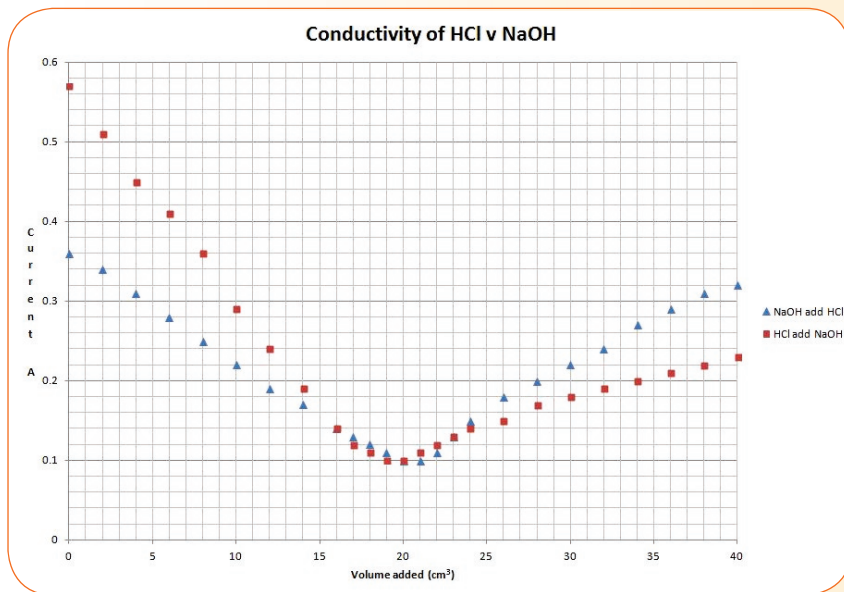

Figure 4 - Graph of conductivity in a reaction between a strong acid and a strong base.
- 5) Add the second solution a bit at a time, recording the current after each addition. You can either use a burette or a graduated pipette. The graph (Figure 4) was obtained using a Pasteur pipette.
Figure 4 shows the results for a strong acid and base (both 0.1 mol dm⁻³). The graph shows the results both ways round, adding acid to base and base to acid. From the graph it is clear that the acid has significantly higher conductivity than the base. This is due to the small size and hence high mobility of H⁺ ions compared to OH⁻. (See Table 1). So what is happening here? To understand the shape of the graph, you need to know what reaction is taking place. In this case, it can be represented by this equation: